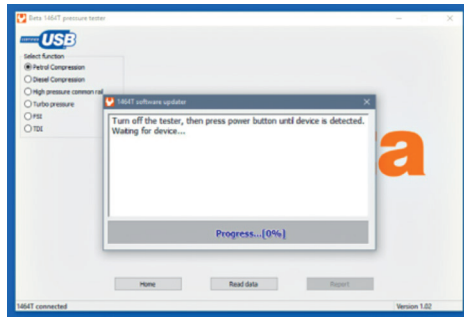
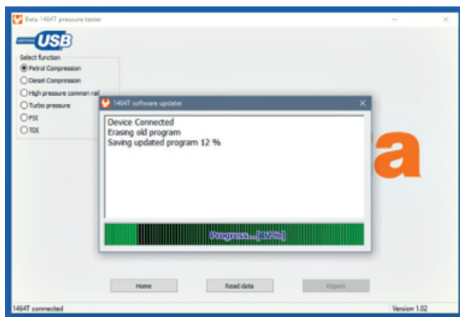

Fig.5
Fig.6
- Next message (see fig.5) will tell you to turn off the tester and then press the power button continuously until the PC detects the tester. **In this step is very important that you keep the power button pressed (about 6 seconds) until the PC detects the tester in update mode(see fig.6).**
- When the tester is detected the update process will begin (see fig.6).